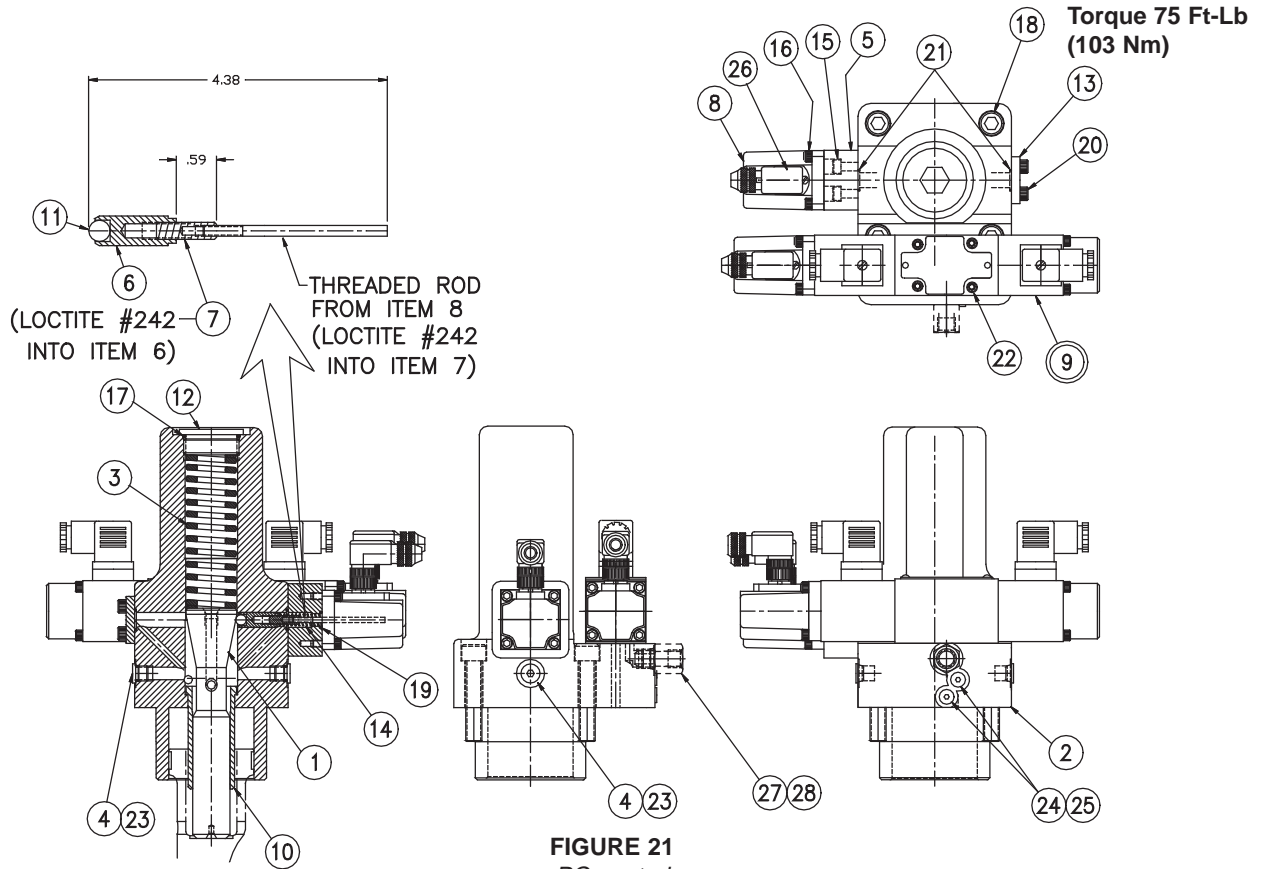

FIGURE 21
PARTS LIST FOR FIGURE 21
1. See Figure 21. With pump on full stroke, remove plug (12) and spring (3) from cap (2).
2. Remove LVDT feedback assembly (8) from cap. Remove sensor base (5), spring (14) and feedback rod assembly (6, 7, and 11)
3. Remove tubing assembly. Remove proportional valve with LVDT, item (9).
4. Remove screws (18) and slip cap off pump.
5. Examine servo cone piston (1) and sleeve (10) for wear or binding in the bore.